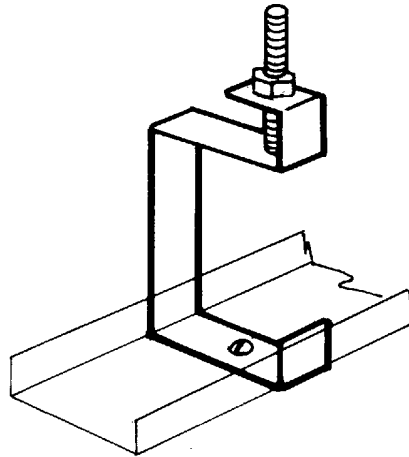

Figure 4.4
4.2.1.4 Single Channel Cable Tray Hanger (See Figure 4.4)